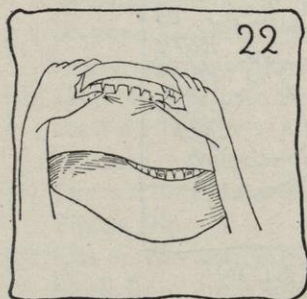

FIG. 22.
- i. If you want to make the brim a closer mushroom (closer to the face) stretch the crinoline at headsize where the crinoline is bias (see Figure 22). Repin at headsize and make the brim fit smoothly again on the headsize band. In order to do this you will probably have to make the lap at the back a little larger.
- f. To make the hat fit closer to the crown, stretch at headsize and pleat or slash coronet (see Figures 22, 23, and 24, page 28).